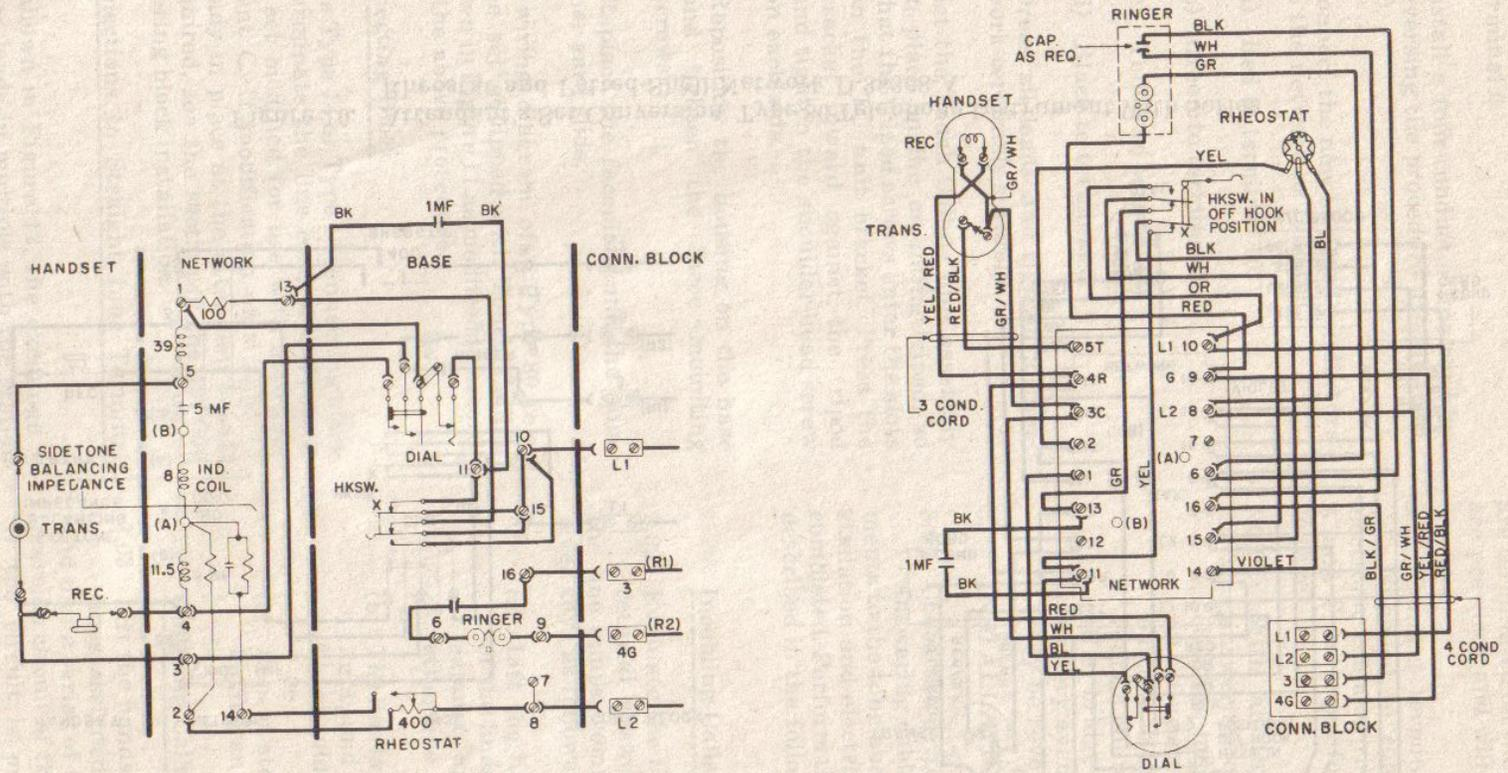

Figure 9. Attendant's Set Conversion, Type 80 Telephone Instrument With Series Rheostat and Potted-Shell Network D-38362-A.
2.13 The wiring diagram of a Type 80 telephone set equipped with a manually-adjusted series rheostat and with potted-shell network D-38362-A is shown in Figure 9 as modified in accordance with Paragraph 2.11. The wiring diagram of a Type 80 rheostat set similarly modified, but equipped with potted-shell network D-38368-A, is shown in Figure 10.